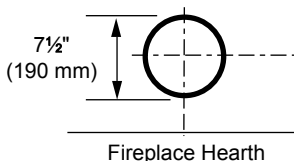

Figure 15 - Locate Vent Opening on Wall
1. Locate and cut the vent opening in the wall. For combustible walls first frame in opening. *Figure 15*
Combustible Walls: Cut a 11½"H x 9½" W (292 x 24 mm) hole through the exterior wall and frame as shown. *Figure 15*
3. Attach vent pipe assembly to the fireplace. Set fireplace in front of its permanent location to insure minimum clearances. Mark the wall for a 11½"H x 9½"W (292 x 24 mm) rectangle hole (for noncombustible material such as masonry block or concrete, a 7½" [190 mm] diameter hole is acceptable). *Figure 15*. The center of the hole should line up with the center line of the horizontal rigid vent pipe end. Be sure to allow for minimum rise. Cut a 11½" x 9½" (292 X 241 mm) rectangle hole through combustible exterior wall (7½" [190 mm] diameter hole if noncombustible). Frame as necessary. Allow ¼" minimum rise per foot. *Figure 15*
1. Establish vent hole through the wall. *Page 17, Figure 15*